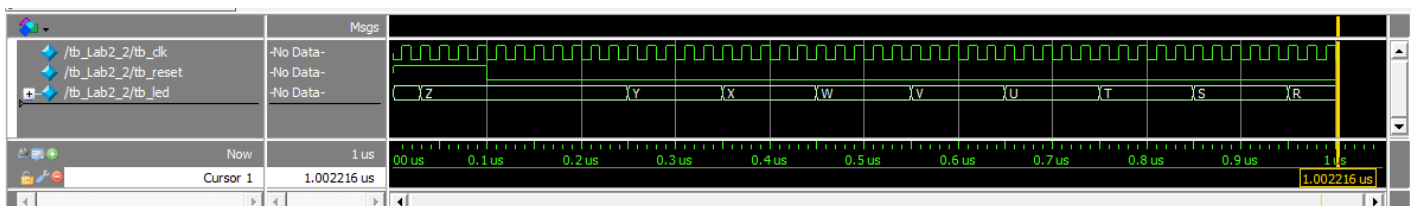

Figure 30
- p. Finally, be sure that you see something like the Figure 30.